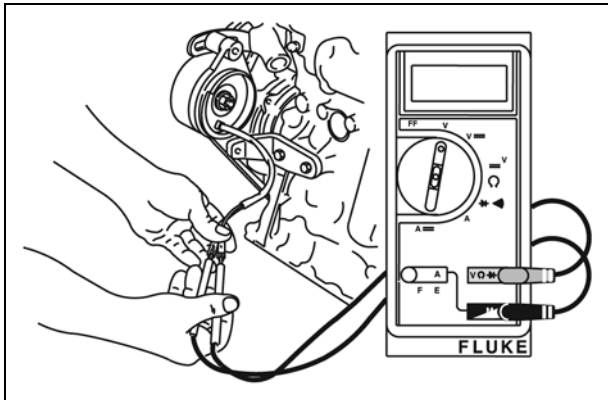

Figure 12
3. Attach meter test leads to alternator output connectors BEFORE starting the engine (Figure 12).